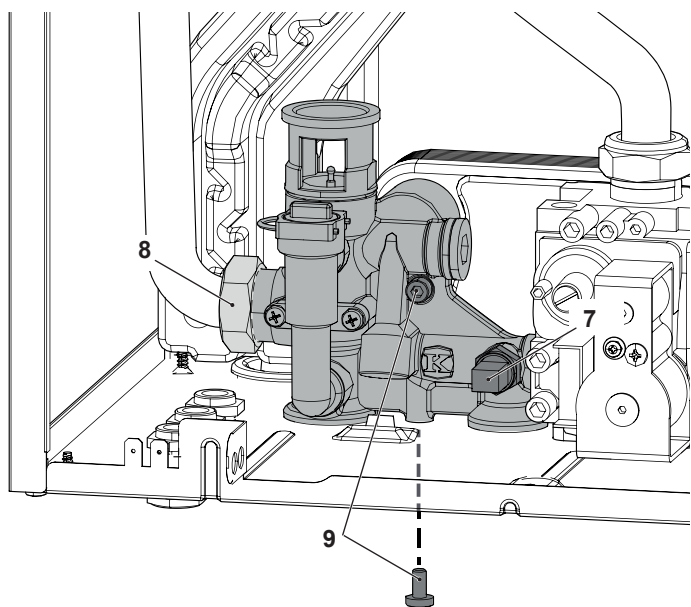

Figure 8.6
- 4 Disconnect D.H.W. temperature probe NTC "7" (Figure 8.6).
- 5 Unscrew the connector "8" (Figure 8.6), the C.H. flow connector and the D.H.W. outlet connector.